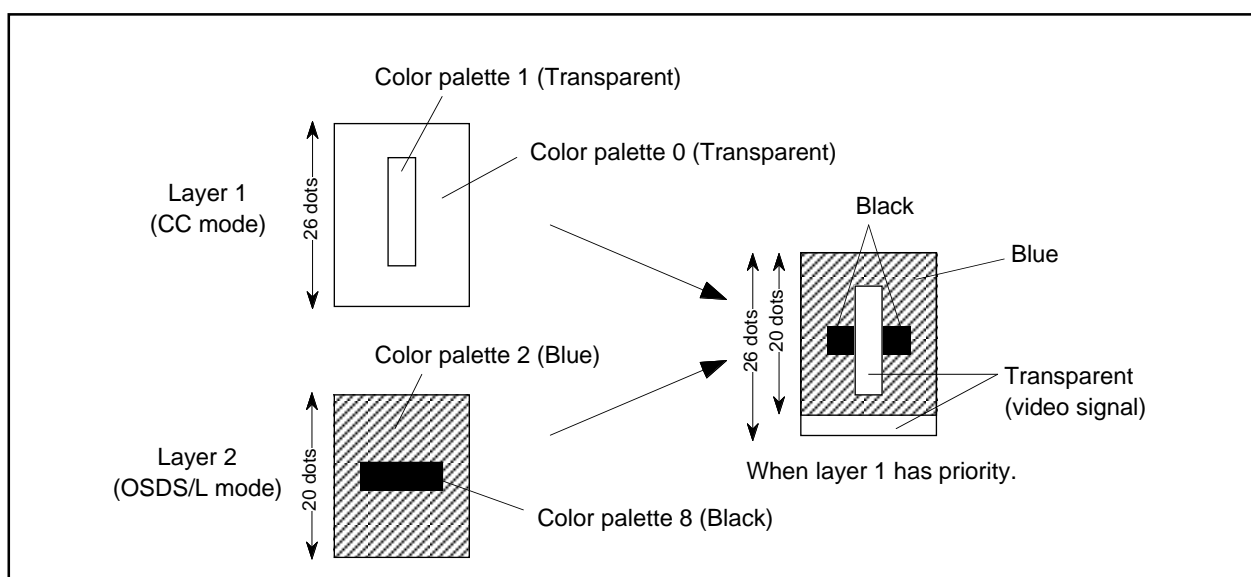

Figure 2.16.27 Difference between color palette 0 (transparent) and transparent setting of other color palettes
**2:** Color palette 0 (transparent) and the transparent setting of other color palettes will differ. When there are multiple layers overlapping (on top of each other, piled up), and the priority layer is color palette 0 (transparent), the bottom layer is displayed, but if the priority layer is the transparent setting of any other color palette, the background is displayed without displaying the bottom layer (refer to Figure 2.16.27).